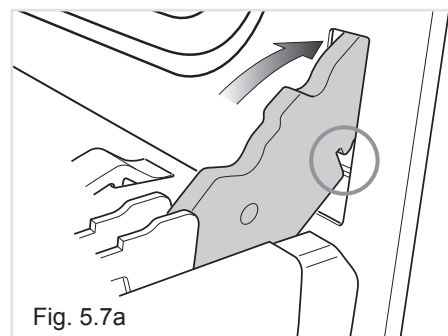

Fig. 5.7a
- Insert the hinge tongues into the slots, making sure that the groove drops into place as shown in the fig. 5.7a.